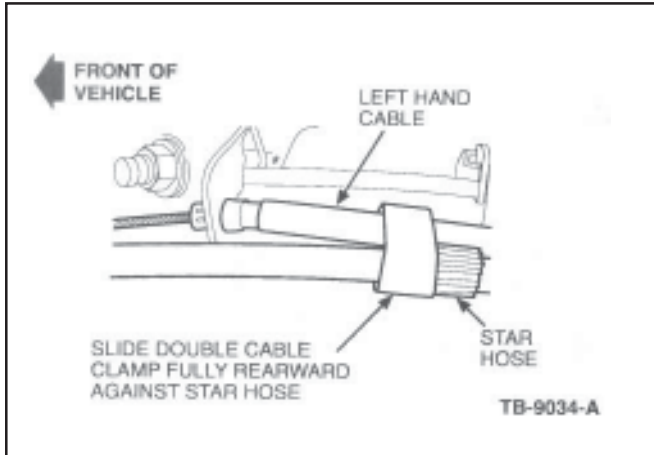

Figure 2 - Left Hand Cable
4. Use a shop towel to clean the sheathing on both parking brake cables where the double cable clamp will be positioned. (Figure 2 - LH side)
4. Use a shop towel to clean the sheathing on both parking brake cables where the double cable clamp will be positioned. (Figure 2)